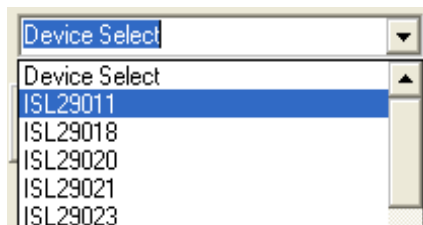

FIGURE 13.
- Go to “Device Select” tab and select the device you have connected to your computer; for this example we will use “ISL29011”, as shown in Figure 13.